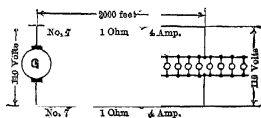

FIG. 100. Two-wire system. The 2 line wires each carry 8 times the current of 1 lamp.
47. Relation of Voltage to Watts Lost in the Line. Let us assume that we wish to use eight 110-volt lamps, each taking $\frac{1}{2}$ ampere, as in Fig. 100. The lamps are 2000 feet from the generator and No. 7 wire is used, which makes about 1 ohm per wire.
The line, then, has to carry only 2 amperes and being the same wire as in Fig. 100 has a total resistance of 2 ohms.
which is the same as in the 110-volt line of Fig. 100, which used 4 times as large a wire.